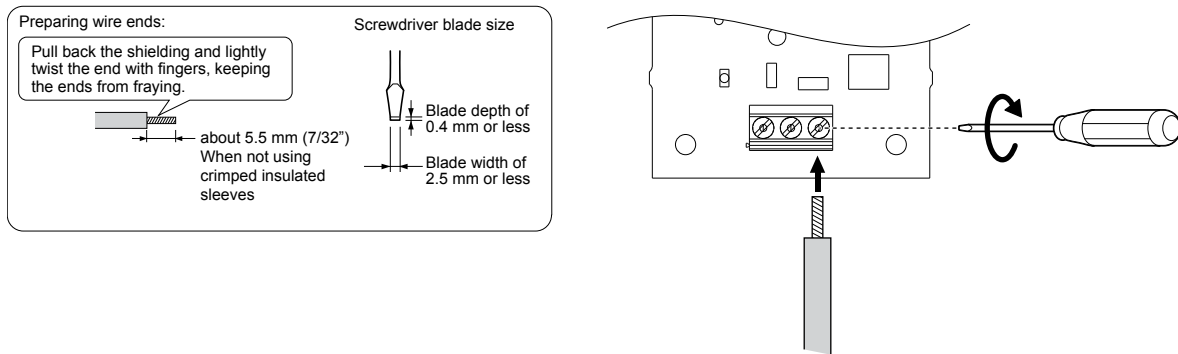

Figure 3.59 Wire the Option Plug
2. Use a flat-blade screwdriver to loosen the screws on the terminal block TB1, connect wiring to the 24, 0, and FE terminals as shown in Figure 3.59, then tighten the terminal screws to hold wiring in place. Refer to Table 3.27 to confirm that the proper tightening torque is applied to each terminal. Take particular precaution to ensure that each wire is properly connected and wire insulation is not accidentally pinched into electrical terminals.